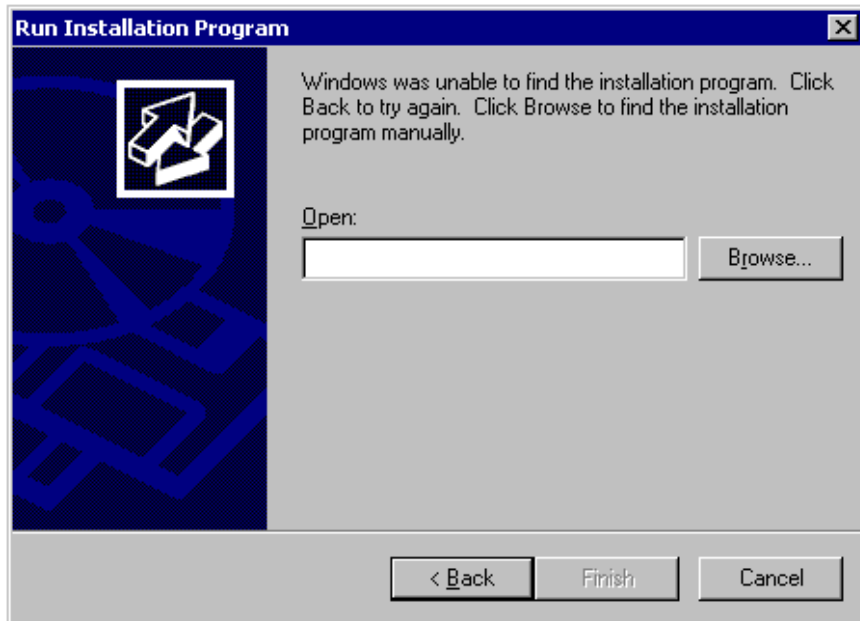

Figure 34. Run Installation Program - Browse
3. Click **Next**. A screen will appear to prompt for the path to the *setup.exe* file (Figure 34).